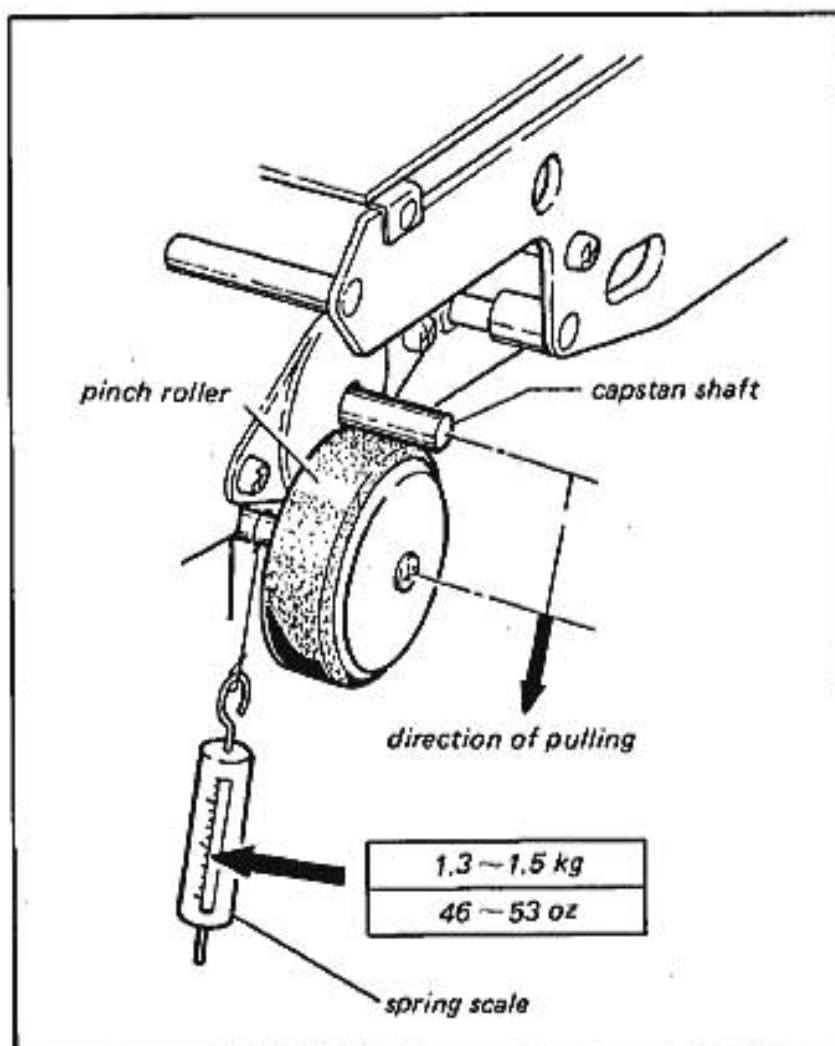

Fig. 6-5 Pinch roller pressure adjustment
(See Figs. 6-5, 6-6)
- 1) Set the spring scale to the pinch roller as shown in Fig. 6-5. Push the FORWARD button marked "►".